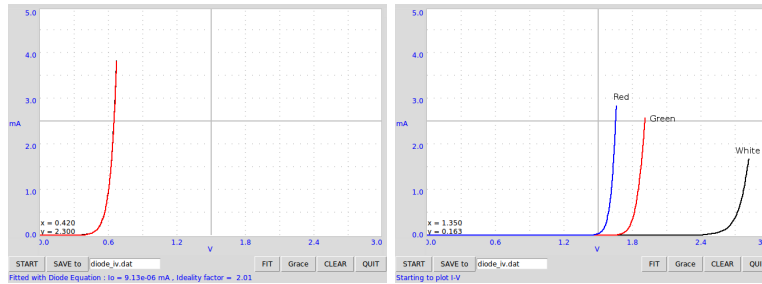

Figure 4.3: I-V characteristic of (a) Silicon diode (b) several LEDs
**Observation** The curves obtained are shown in figure 4.3(a). The value of  $n$  for 1N4148 is around 2. We have calculated the value of  $n$  by fitting the experimental data with the equation1. Figure 4.3(b) shows the IV curves of few LEDs, of different wavelengths.